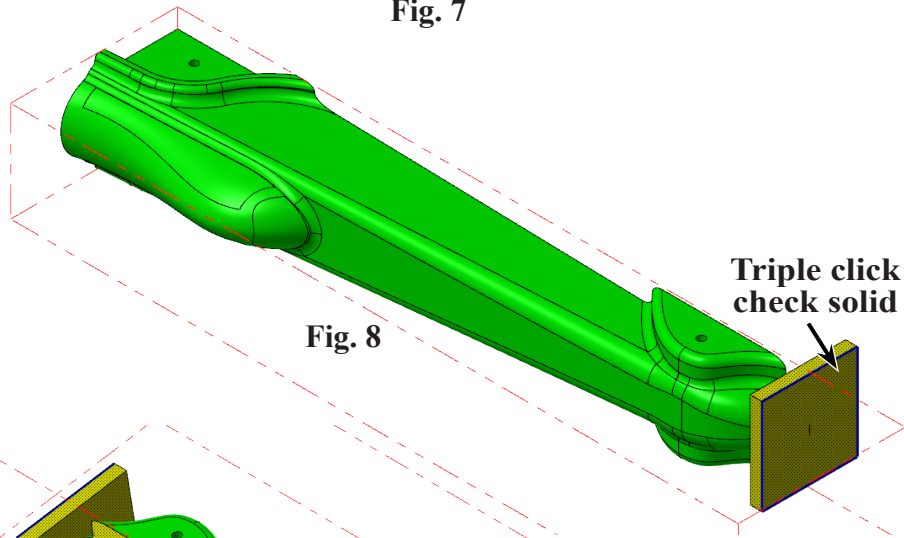

Fig. 8
Step 5. **Triple click the check body** to select as avoidance geometry, **Fig 8.**